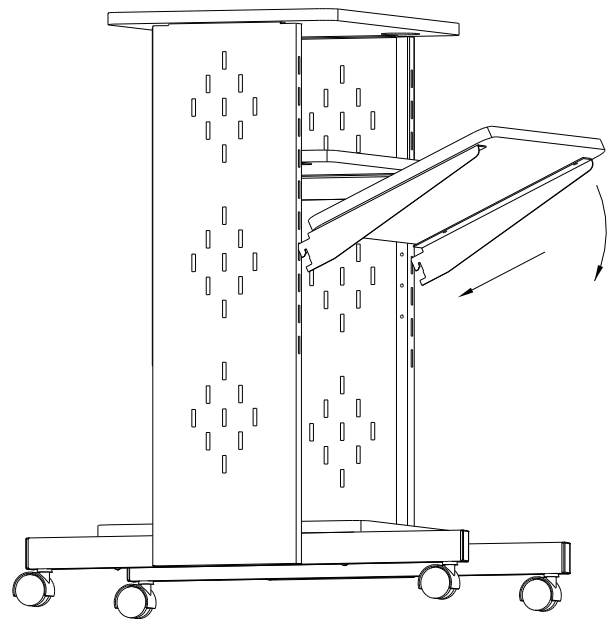

Figure 9
10. Determine the height needed for the Laptop Shelf. Insert the Brackets into the rectangle cutouts and rotate the shelf assembly down. See Figure 9.